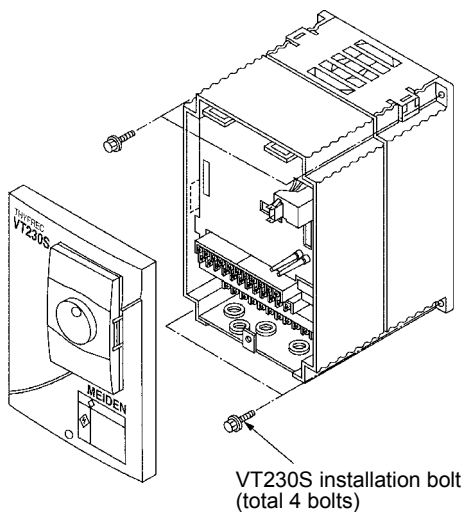

Fig. 2-2
#### (1) 015L, 018H and smaller (Fig. 2-2)